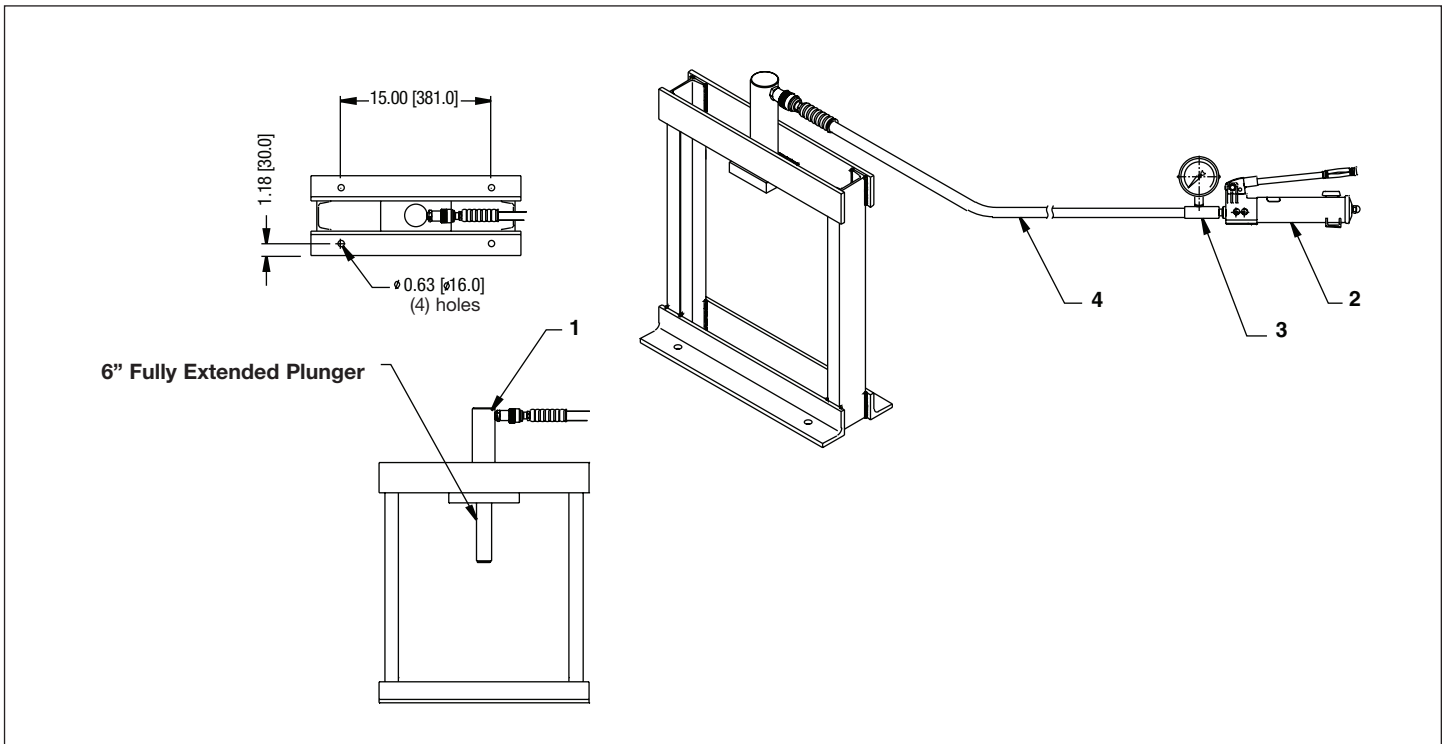

Figure 1, 10-ton VLP
3.0 INSTALLATION/MOUNTING (SEE FIGURE 1)
Mount the press using the four mounting holes located in the bracket. See Figure 1 for mounting dimensions.